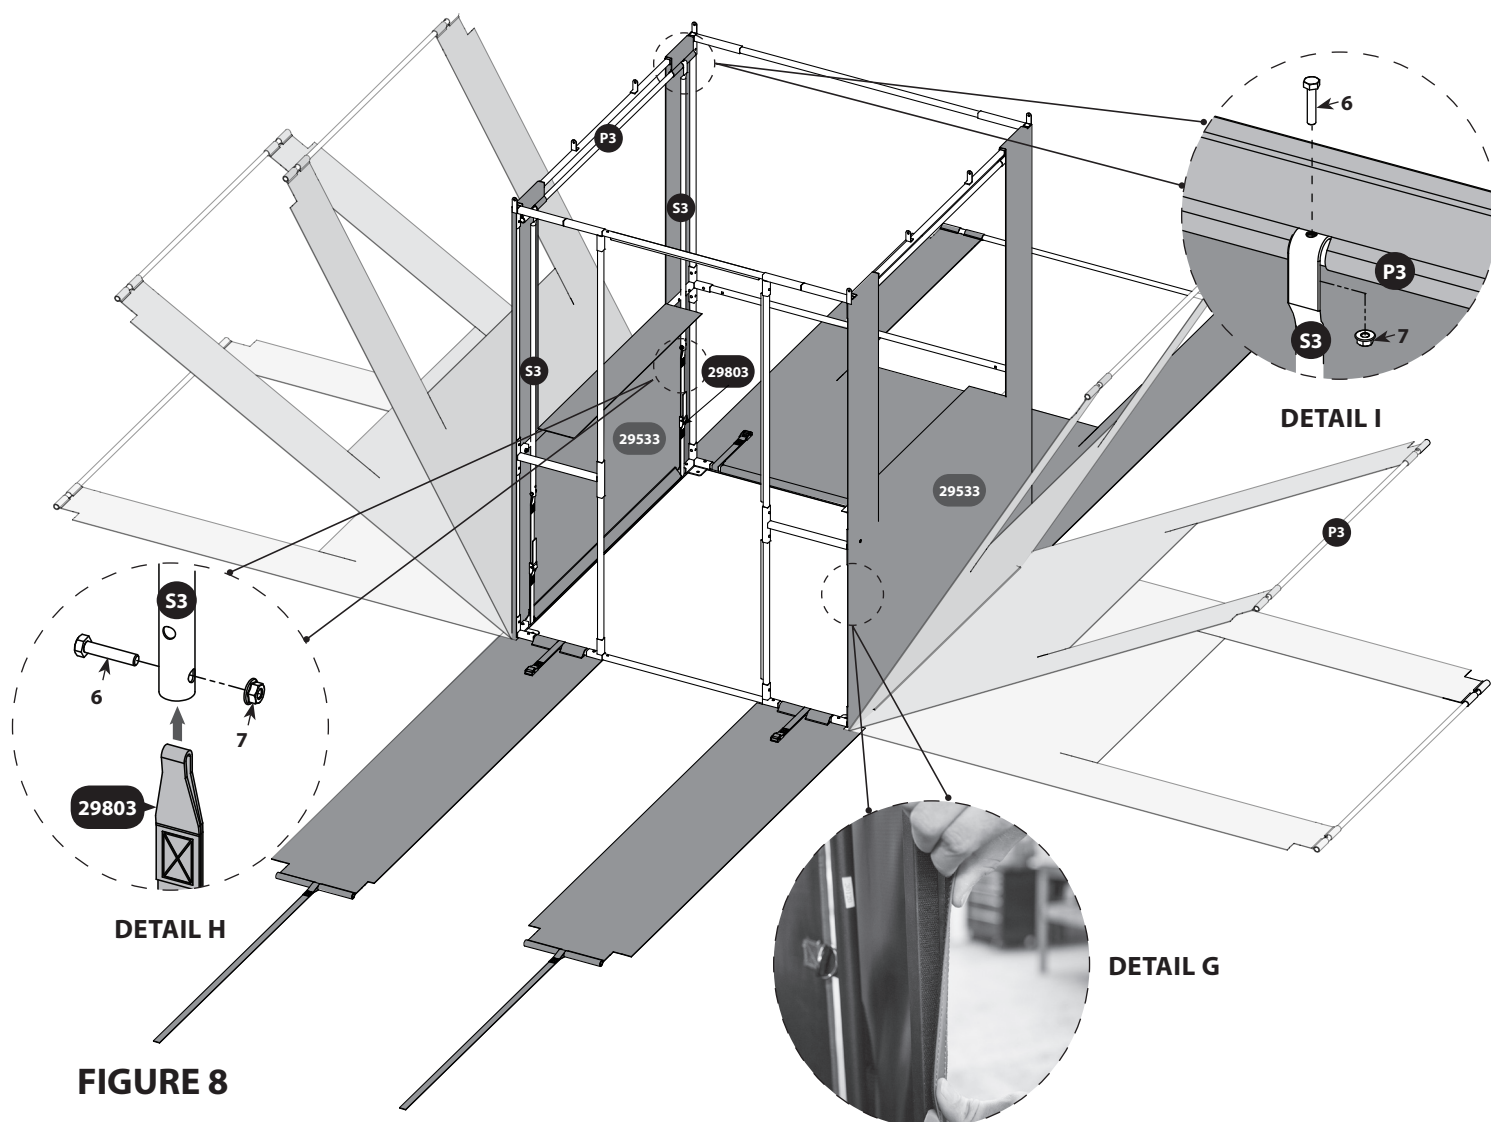

FIGURE 8
14. You can now begin assembling the skin to the rest of the frame. Starting with the side wall panels (29533), pull the panel up and flip pole (P3) over the top tier of the frame towards the interior of the blind. **SEE FIGURE 8.**